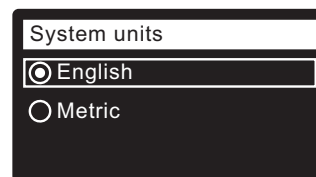

FIG. 23
9. **SYSTEM UNITS** If the desired system already has a dot next to it (See Figure 23), go to Step 10. Otherwise, press the DOWN (▼) or UP (▲) buttons to scroll to the desired system, then press the SELECT (O) button to choose it.
10. Press the SELECT (O) button.